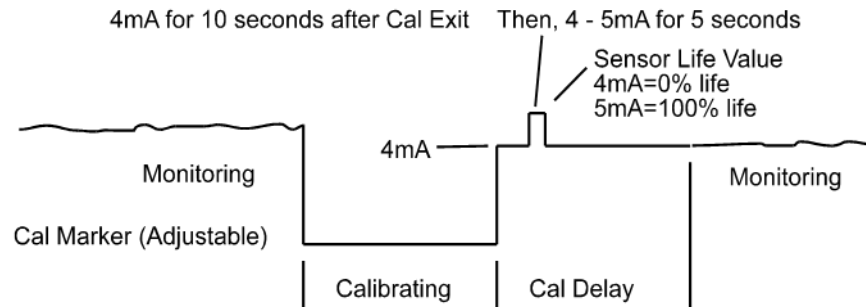

Figure 5-5 – Transmit sensor Life Timing Diagram
**TX Sensor Life** set for YES, causes the TXP-T20/T30 4 - 20 mA output to transmit a sensor life value after successful calibrations during the CAL PURGE delay (see Chapter 4.1). Normal operation is the TXP-T20/T30 transmits 4mA during the CAL PURGE delay. But with TX Sensor Life = YES it transmits 4mA for the first 10-seconds, then for 5-seconds transmits a value between 4mA and 5mA, with 4mA equal to 0% sensor life and 5mA equal to 100% sensor life (see Figure 5-5). The output then returns to 4mA for the remainder of the CAL PURGE delay. For example, if after a calibration sensor life is 75%, the TXP-T20/T30 transmits 4.75mA during the 5-second interval.